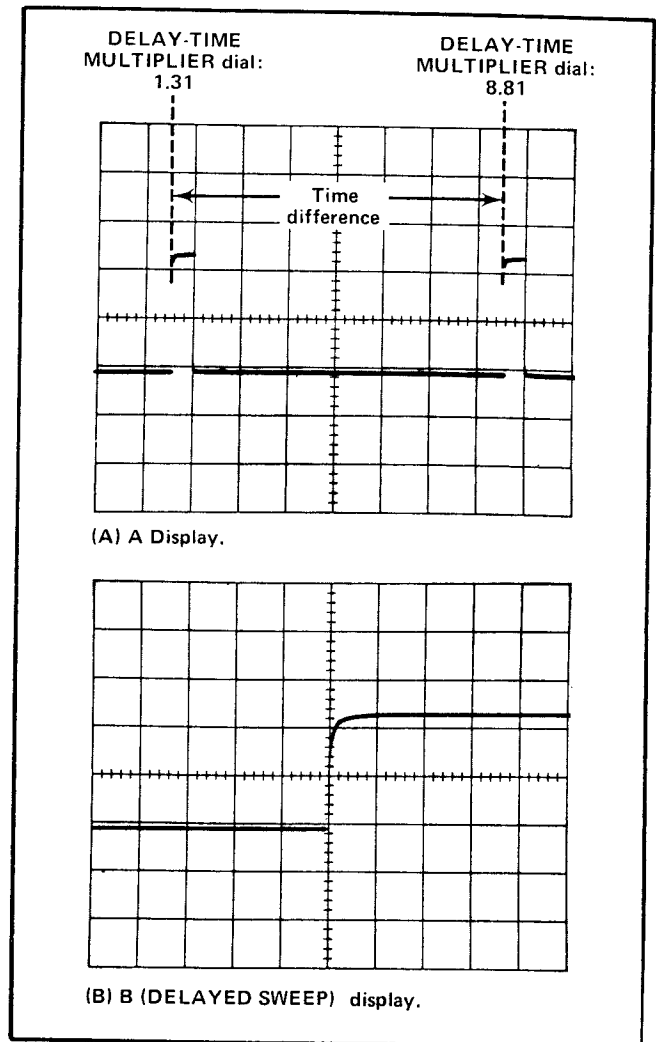

Fig. 2-24. Measuring time difference using delayed sweep.
**Example.** Assume the first dial setting is 1.31 and the second dial setting is 8.81 with the A TIME/DIV switch set to  $0.2 \mu\text{s}$  (see Fig. 2-24).